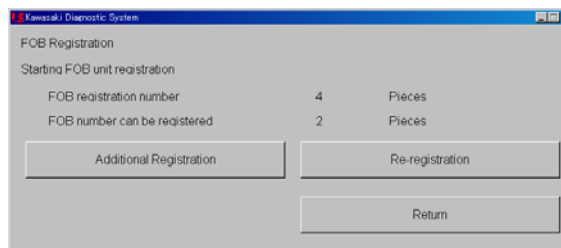
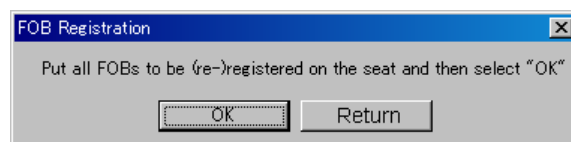

Fig. 5-34 Additional Registration
Fig. 5-35 Re-Registration
- Fig. 5-34 appears, select *Return* if completed.
- Select *Re-registration*, Fig. 5-34, then select *OK*, Fig. 5-35. In this example there are 3 FOBs.